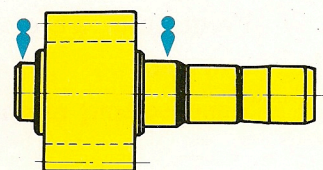

Fig. 3
- Barrel-driven minute pinion with cannon pinion: Apply to upper and lower pivots before assembling. Fig. 3